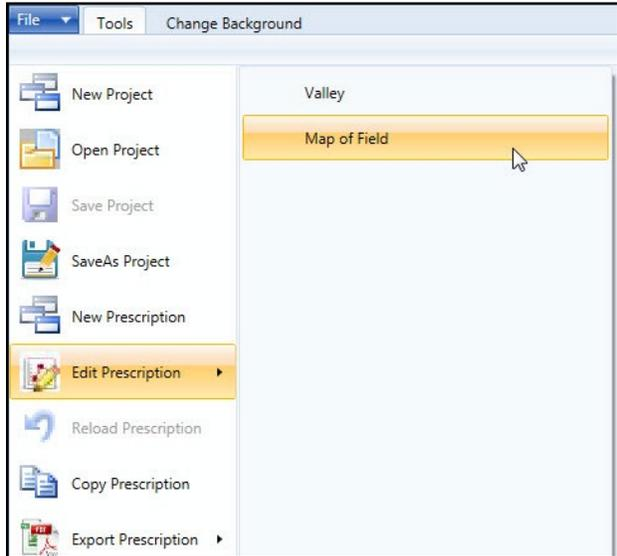

Figure 32-1 VRI Drop-down Menu Edit Prescription
1. Select **Edit Prescription** in the VRI drop-down menu. See Figure 32-1.
2. Select the name of the prescription in the right column. See Figure 32-1.